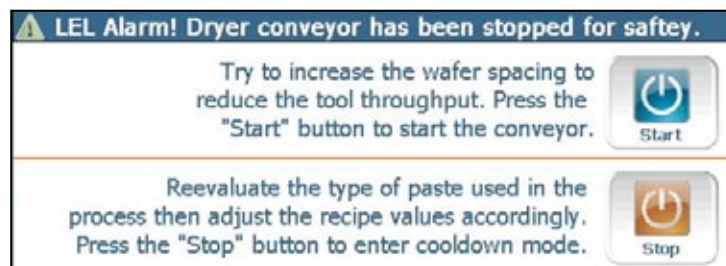

Figure 28. Confirm LEL Settings Dialogue Window.
- Wafers per hour threshold that exceeds 25 percent LEL. This value generates a warning alarm (Figure 28).